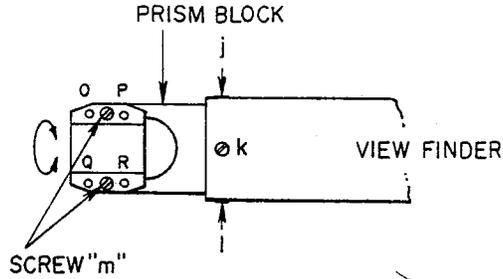

Fig. 17
- (b) If picture is not in center of view finder, loosen Screw "m" (shown in Fig. 17) and adjust angle of prism by turning screws O.P.Q.R. until picture is in center of view finder.